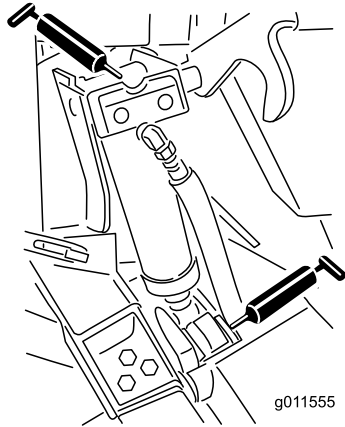

Figure 46
- Lift cylinder bushings (4) (Figure 46)